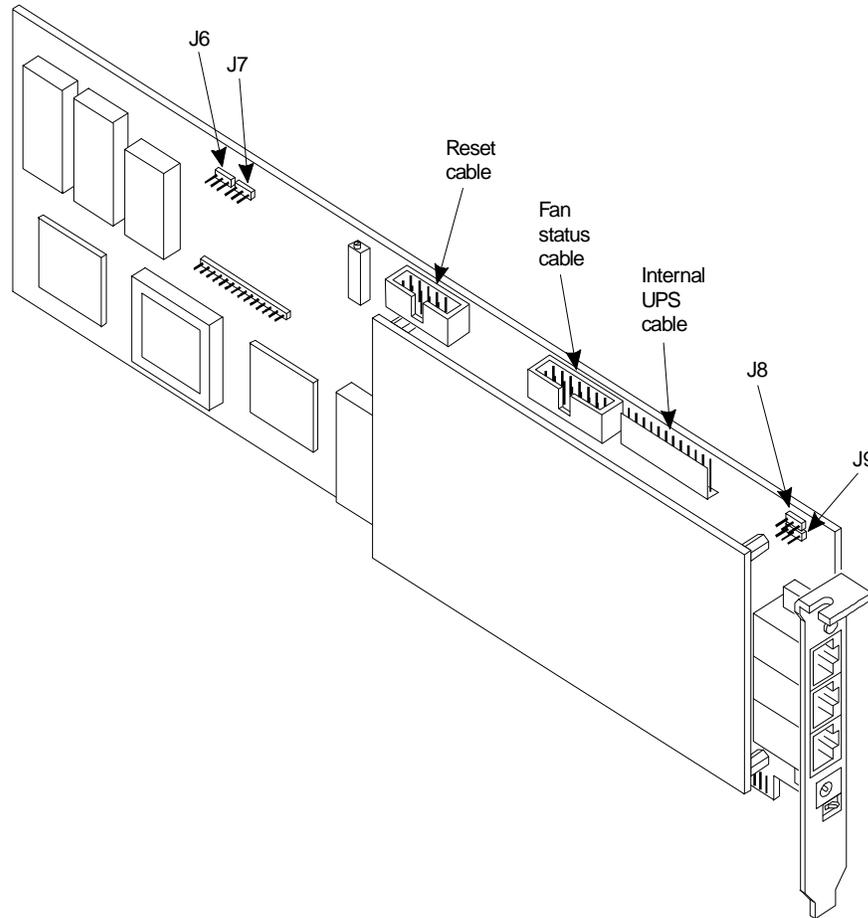
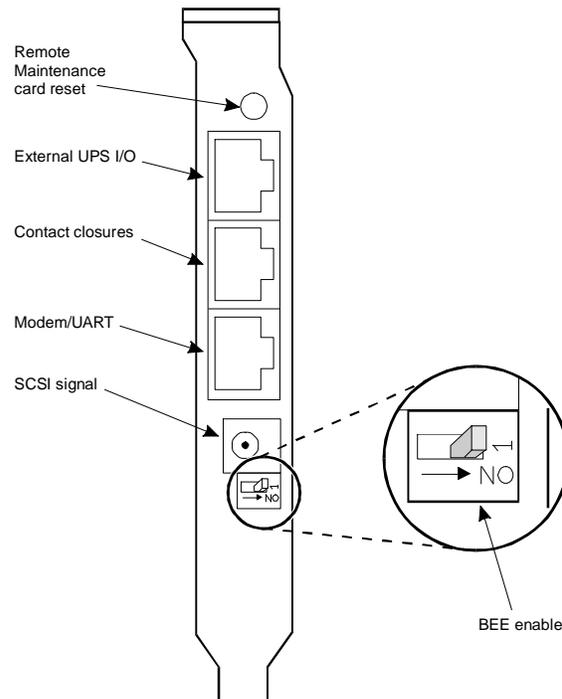
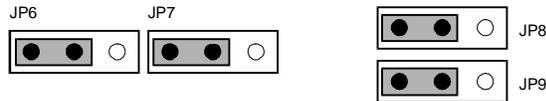

Figure 9-22. Remote Maintenance Circuit Card
Figure 9-23. Faceplate of the Remote Maintenance Circuit Card Showing the BEE Enable Switch
Figure 9-24. Jumper Settings for the Remote Maintenance Circuit Card
The MAP/100 accommodates a Remote Maintenance circuit card (Figure 9-22) to allow for remote diagnostics of basic MAP/100 components.
Figure 9-23 shows the faceplate of the Remote Maintenance circuit card and an enlarged view of the BIOS Extension EPROM (BEE) enable switch. Ensure that this switch is set to the ON (default) position as shown.
Figure 9-22 shows the four jumper locations on the Remote Maintenance circuit card, J6, J7, J8, and J9. Ensure that a jumper is installed on pins 1 and 2 of each one as shown in Figure 9-24.
The following tables show the pinouts for the various connectors on the Remote Maintenance circuit card. Figure 9-22 and Figure 9-23 show the locations of these connectors.
10. Connect the suppression cable to the external modem connection on the faceplate of the card (see Figure 9-23 for the location of the modem/UART connection) and to the modem.